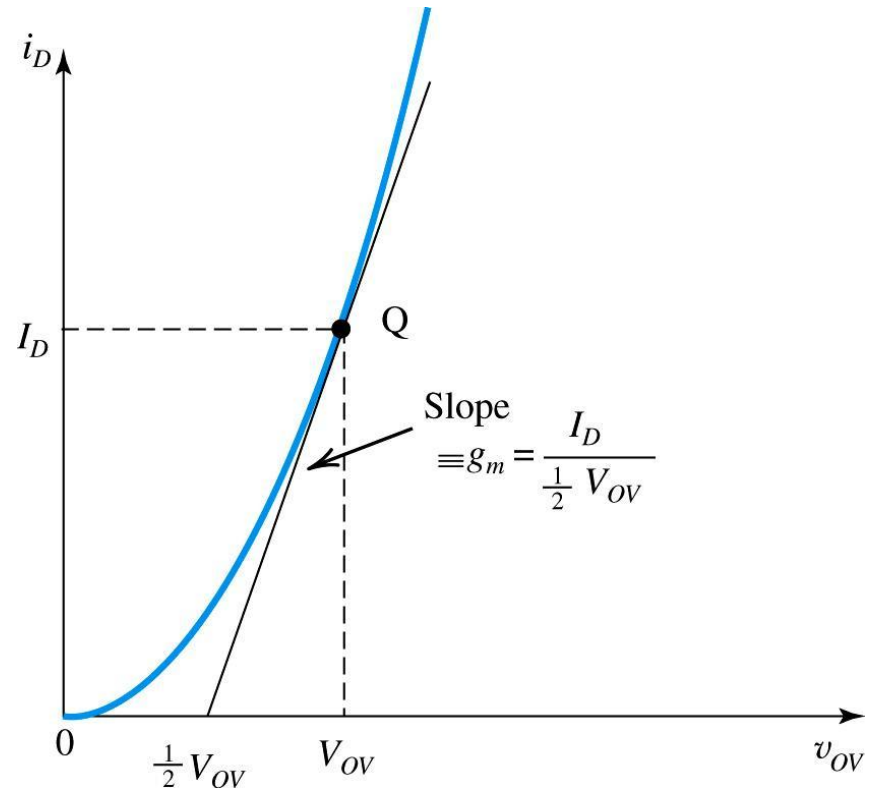

Figure 5.38: The slope of the tangent at the bias point Q intersects the v_{OV} axis at $1/2 V_{OV}$. Thus $g_m = I_D / (1/2 V_{OV})$.
- Figure 5.38 illustrates the relationship defined in (5.57).